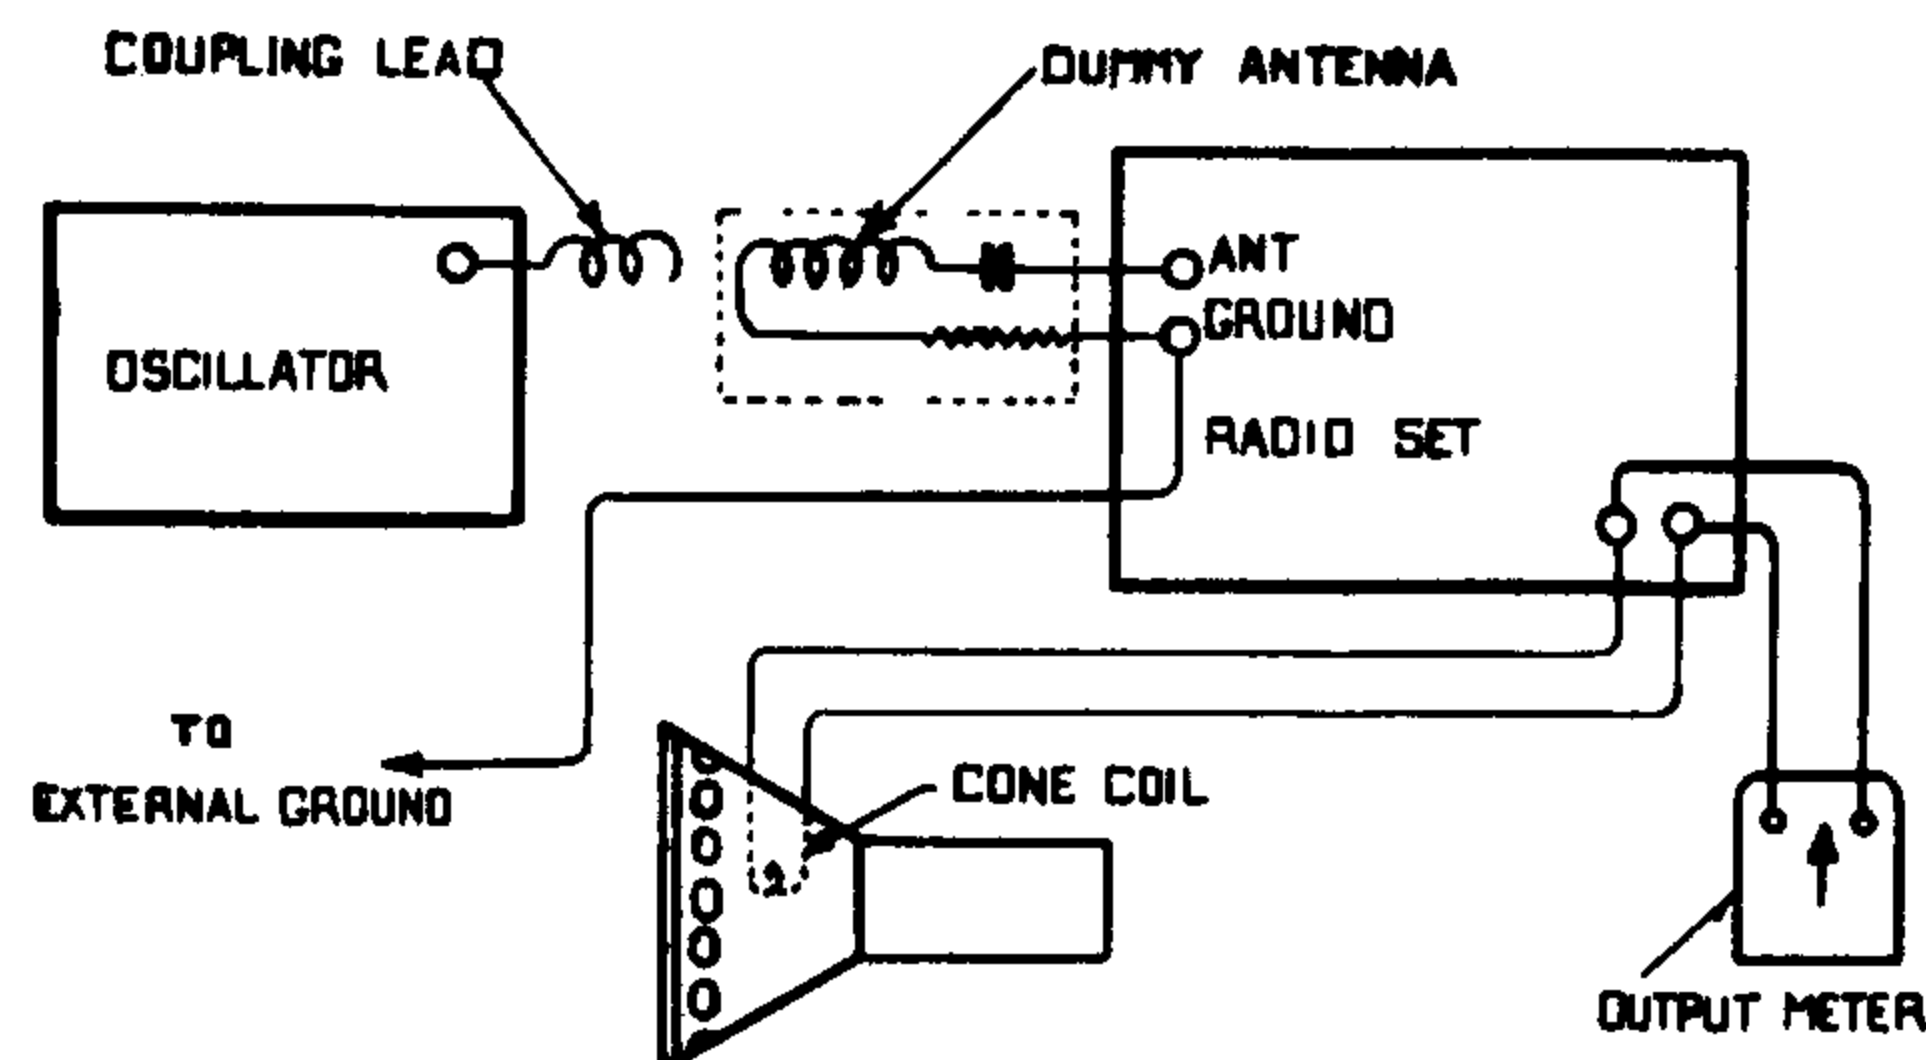

Fig. 11. Hook-up of Service Oscillator, Dummy Antenna, Output Meter and Radio Receiver
(a) Place the receiver in operation and feed into it a weak signal from the oscillator, using dummy antenna, coupling leads and output meter as illustrated in Figure 11.
(c) Use the hook-up illustrated in Figure 11, except that the dummy antenna may or may not be used and the coupling lead should be placed adjacent to the first detector coil in the receiver assembly. (or clipped to the control grid contact of the first detector).
- (c) Use the hook-up illustrated in Figure 11 except that the dummy antenna may or may not be used and the coupling lead should be clipped to the control grid of the first detector radiotron.
(12) ADJUSTMENT OF I.F. TUNING CONDENSERS.
- (b) Connect output meter in circuit. (See Fig. 11).
(a) Place the receiver and service oscillator in operation using dummy antenna, coupling lead and output meter as illustrated in Figure 11.